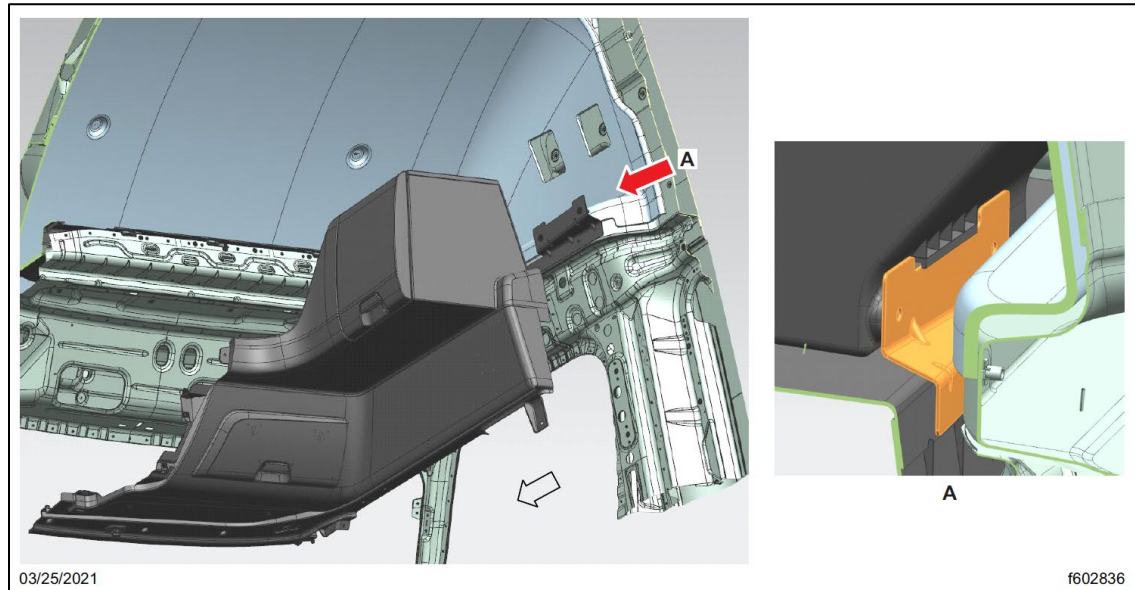

Fig. 55, RH Overhead Storage Assembly Hung on the Sidewall Bracket
9.5. Lift the RH side overhead storage assembly until it releases from the sidewall bracket, and remove it from the vehicle. See Fig. 55.